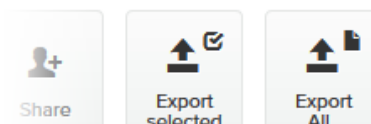

Figure 54. Plug-ins web page (code export controls)
4. To export only selected Activation codes, check the selection check-boxes to the left of each plug-in that must be included in the *.CSV file, then click the **Export selected** button. Alternatively, export all Activation codes by clicking the **Export All** button (Figure 54 \(page 110\)).